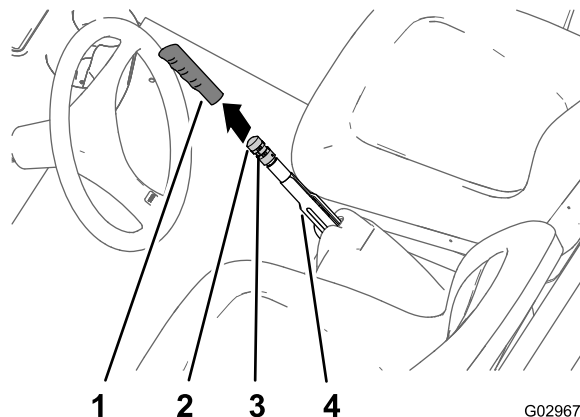

Figure 61
1. Remove the hand grip from the parking-brake lever (Figure 61).
2. Loosen the set screw securing the brake-adjustment knob to the parking-brake lever (Figure 61).
3. Rotate the brake-adjustment knob until a brake-lever force of 133 to 156 N-m (30 to 35 ft-lb) is required to set the parking-brake lever (Figure 61).
4. Tighten the set screw and install the hand grip (Figure 61).
1. Remove the hand grip from the parking brake (Figure 61).
2. Loosen the set screw (Figure 61) securing the brake-adjustment knob to the parking-brake lever, release the parking brake, and loosen the brake-adjustment knob.
5. Rotate the brake-adjustment knob (Figure 61) until a force of 133 to 156 N-m (30 to 35 ft-lb) is required to set the parking-brake lever.
- C. Rotate the brake-adjustment knob (Figure 61) until a force of 133 to 156 N-m (30 to 35 ft-lb) is required to set the parking-brake lever.
- Tighten the set screw and install the hand grip (Figure 61).